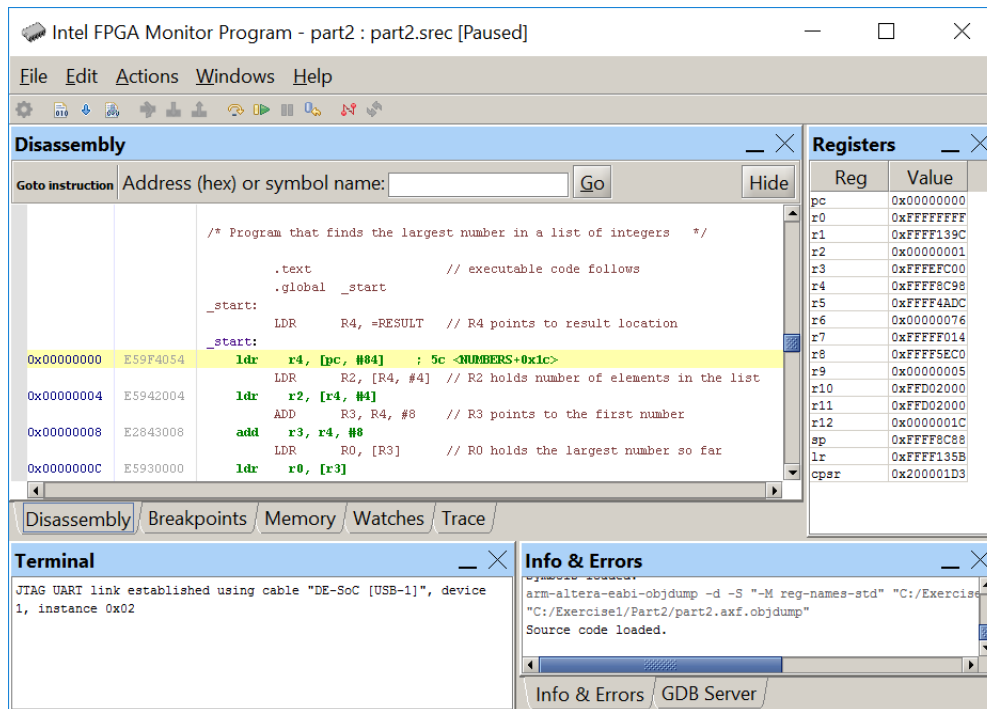

Figure 10: The disassembled view of the program in Figure 9.
4. The Monitor Program will display a disassembled view of the machine code loaded in the memory, as indicated in Figure 10. Note that the pseudo instruction **LDR R4, =RESULT** from your source code has been implemented by using the instruction, **LDR R4, [PC, #84]**. This instruction loads the 32-bit address of the label RESULT into register R4. After this instruction has been executed, the content of register R4 will be 0x00000038, because this is the address in the memory of the label RESULT.